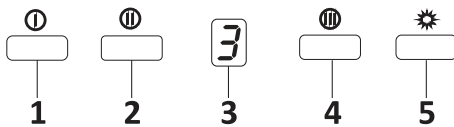

Figure 18: 3 speed switch
1. Press this button to turn on the product. When this button is pressed, product will also operate at speed level 1 (Fig.18).
2. When this button is pressed, product will also operate at speed level 2 (Fig.18).
4. KWhen this button is pressed, product will also operate at speed level 3 (Fig.18).
5. Press this button to turn on or off the lamp Fig.18.
6. To activate timer function, press and hold any of buttons for 2 seconds. Then, 15 minute timer function will be activated and the product will turn off automatically after 15 minutes. Figure 18